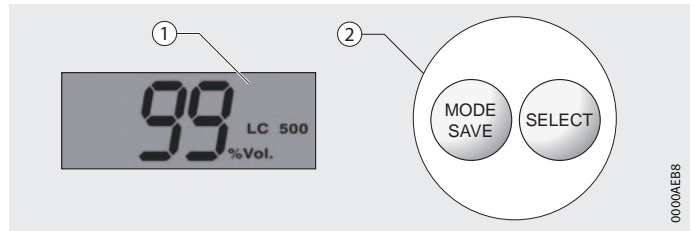

Figure 16
Special dispensing process	The option exists to carry out a special dispensing process in order to supply a lubrication point with additional lubricant. The special dispensing process can only be carried out while the supply voltage of the lubrication system is activated (display of remaining volume) by simultaneously holding down both keys for a long period, Figure 16 ②, page 20.
There is a minimum period of 30 seconds between two special dispensing processes. Each time both keys are held down for a long period, Figure 16 ②, during this time is registered and leads to further special dispensing processes. A maximum of 5 special dispensing processes are recorded by the system.